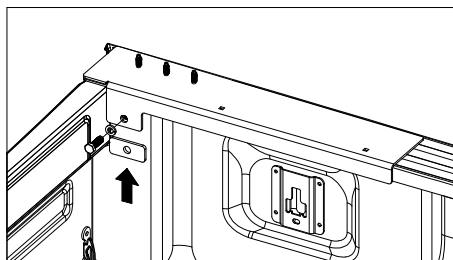

Figure B5
2. **Install 1/2" hardware:** Place the bed protectors back on the bed sides, as shown in Figure A1. Locate the 1/2" cap screw, 1/2" lock washer and 1/4" thick spacer block. Place the spacer block between the flange of the bed protector and the outside of the stake pocket. With the lock washer on the 1/2" cap screw, pass the cap screw through the hole in the flange of the bed protector and spacer block, see Figure B5. Thread the cap screw into the mounting bracket installed earlier. Once the cap screw is most of the way in, push the bed protector towards the cab, then tighten the 1/2" cap screw to 80 ft-lbs.